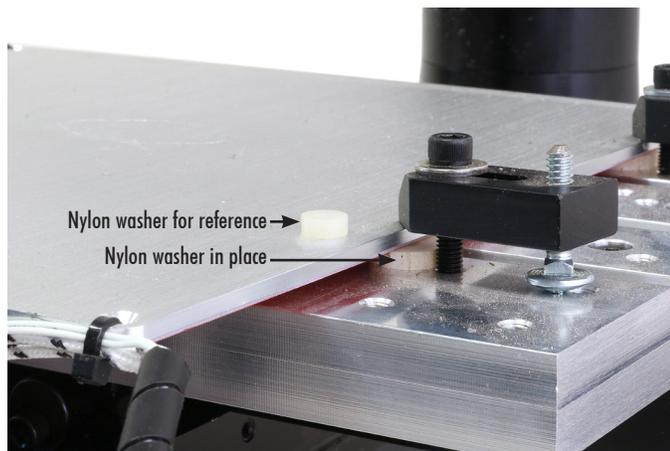

FIGURE 1
- a. The heat bed comes from the manufacturer with a section of tubing that you are instructed to cut into (4) equal lengths to use as insulated spacer pieces under the bed. We don’t use this method. There are (4) nylon washers included with your system. Place one of these under the bed directly beneath a hold down ((2) P/N 3012 Standard Hold-Down Set is recommended). (see Figure 1)
UBUNTU FIGURE 1